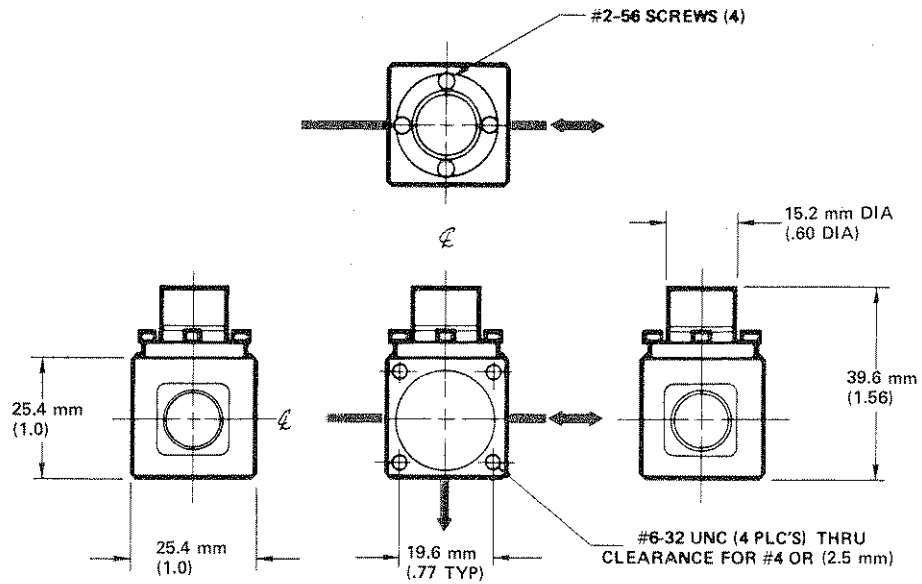

Figure 2-21. 10705A Single Beam Interferometer Specifications
- d. 10705A Single Beam Interferometer, see Figure 2-21.